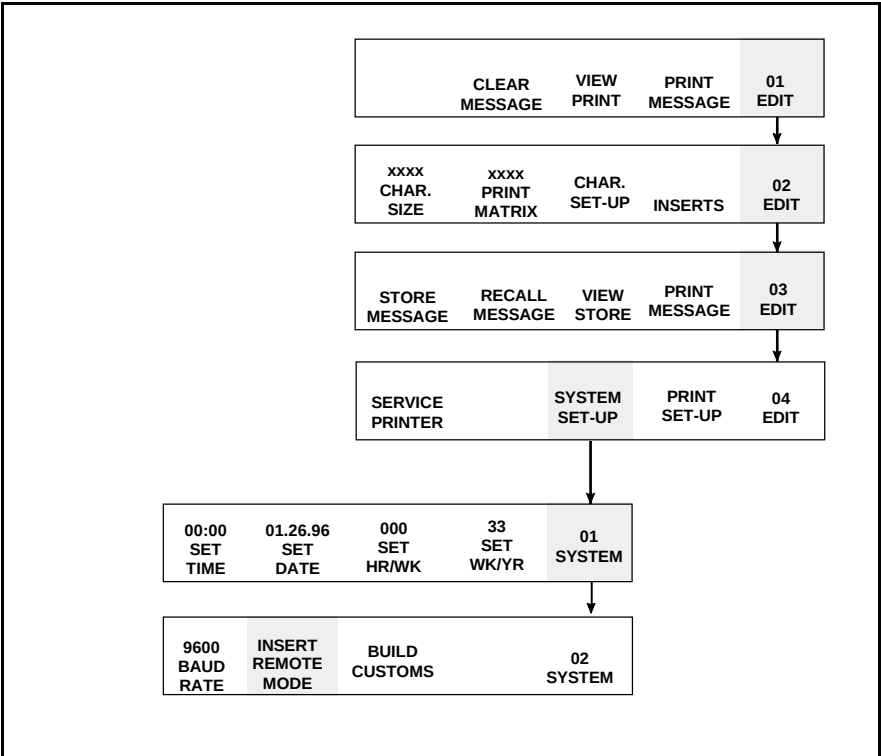

Figure 7-16. Accessing Frame <02 SYSTEM>
1. Begin in Frame <02 SYSTEM>. Refer to Figure 7-16.